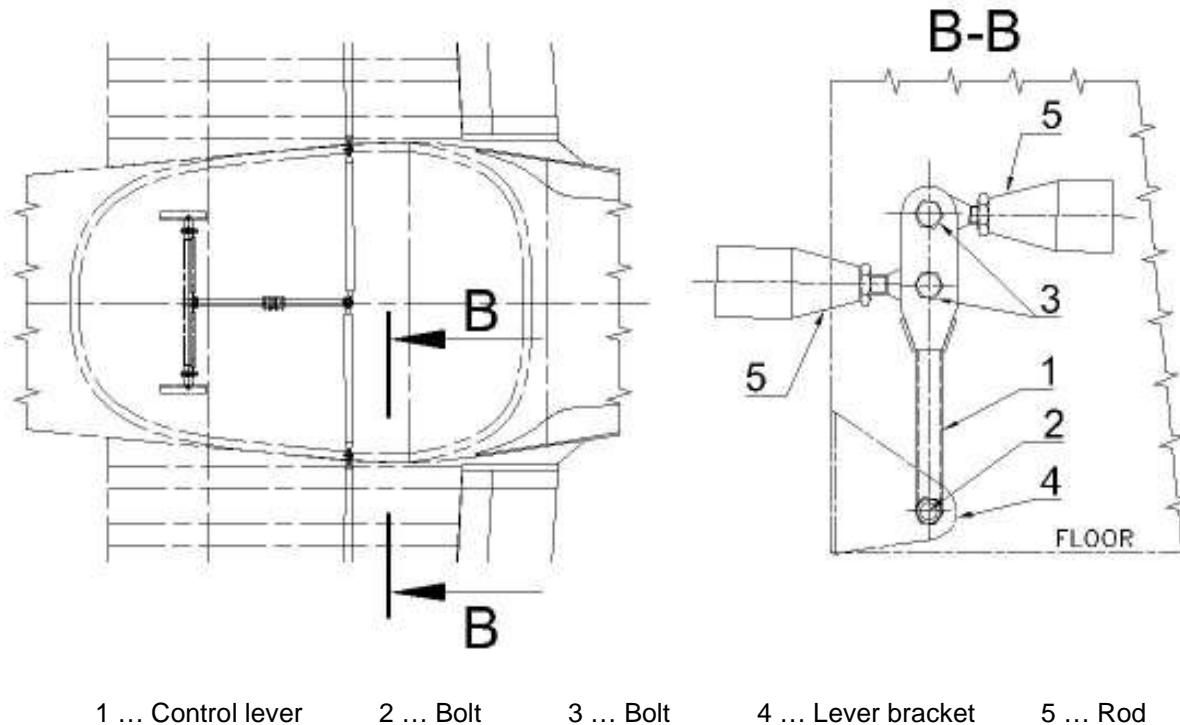

Fig. 6-9: Control lever of aileron control behind the seats
- (b) Disconnect both push rod (5) from the control lever (1) (see Fig. 6-9).
- (c) Disconnect the control lever – unscrew the nut, remove the bolt (3).
- (d) Remove control lever from the bracket (4).
- (a) Insert the control lever (1) to the bracket (4) (see Fig. 6-9).
- (b) Connect the bolt (2) and nut.
- (c) Connect control push rod (5) with control lever.